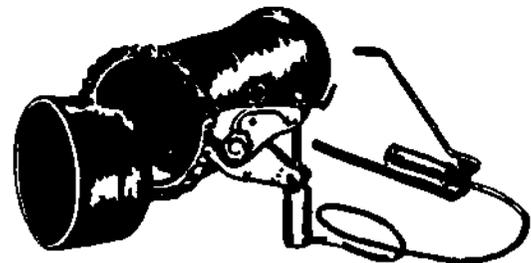

Figure 1-58. Three Types of Snap Cutters
In addition to some of the tools previously shown, others are described and shown in Figures 1-58 and 1-60 for working with cast iron soil pipe.
b) Snap-type cutters similar to those shown in Figure 1-58 are used to cut cast iron soil pipe, vitrified clay pipe, concrete pipe, and asbestos cement pipe.